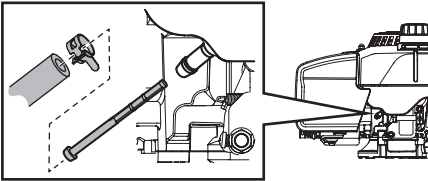

Figure 12
2. Remove hose clamp from fuel line and remove fuel line from tank outlet (Figure 12).
4. Grasp new fuel filter from shouldered end and insert it completely to the shoulder into the fuel tank outlet (Figure 12).